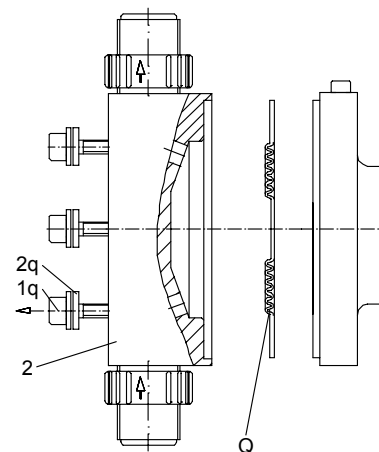

Fig. 38 Replacing a single diaphragm
3. Remove the dosing head (2).
- Remove the diaphragm and fit a new diaphragm (Q) on the suction side. See fig. 38.